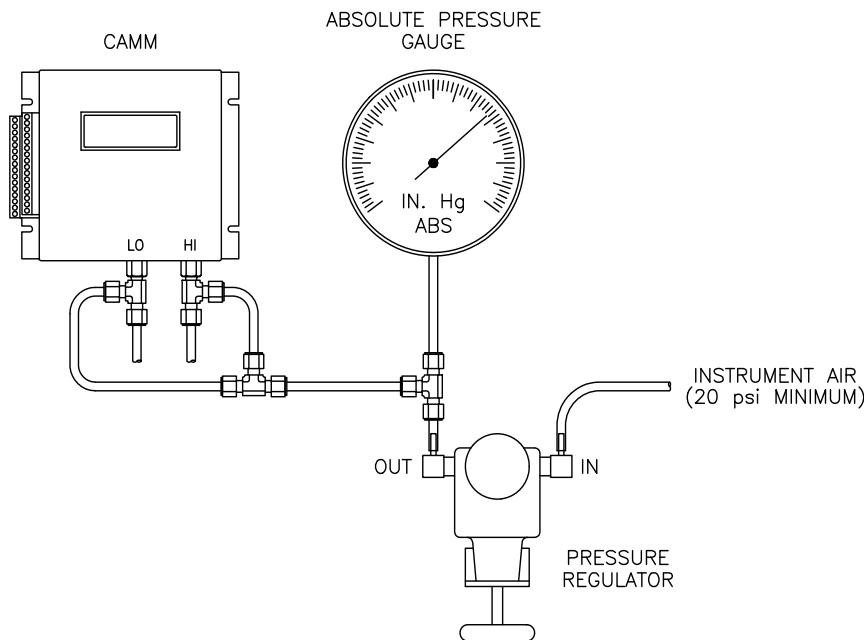

Figure 6.3
7. Prepare test equipment as shown in Figure 6.3.